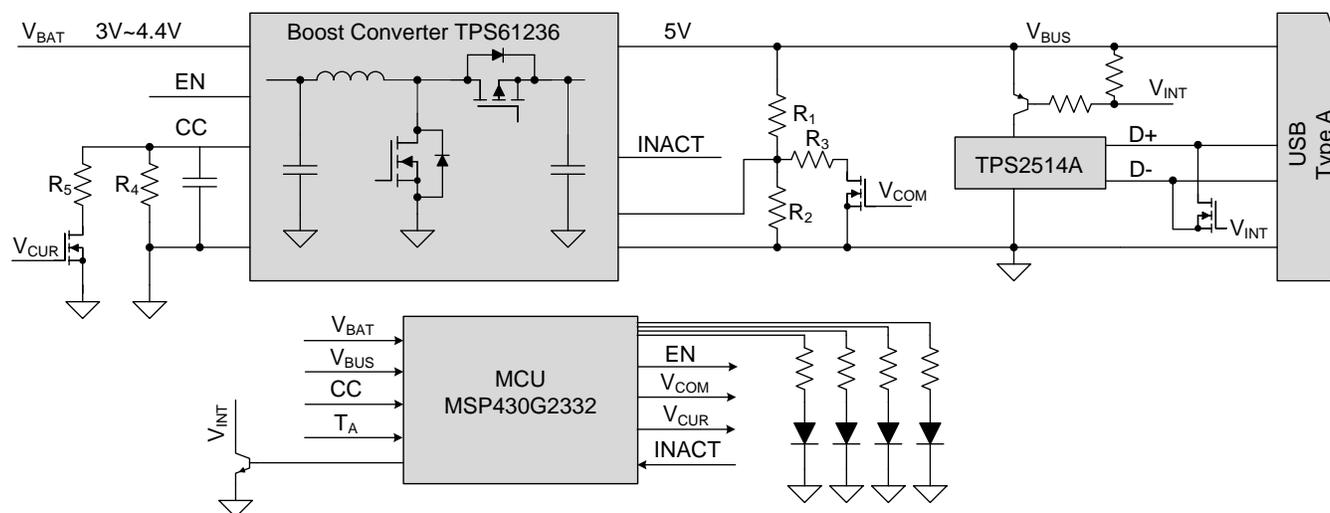

Figure 1: Block Diagram of the Reference-Design
The RD's block diagram is shown in Figure 1. In the system, the boost converter TPS61236 converts the battery voltage to regulated 5V for the V_{BUS} ; The USB dedicated charging port controller TPS2514A provides the electrical signatures on the data lines D+ and D- based on the charging scheme; And the MCU MSP430G2332 controls the operation mode of the RD.
- Standby mode 2:** When the open circuit voltage of the battery is higher than 3.5 V, the boost converter TPS61236 is enabled and output typical 5 V for V_{BUS} . The RD will stay at this mode if the load of V_{BUS} is lower than typical 50mA. The LEDs and TPS2514A are disabled and the MCU enter very low power sleep mode. The V_{INT} in Figure 1 is equal to V_{BUS} , so the USB data lines D+ and D- is short by the NMOSFET. the current consumption in this mode is approximate 22µA
- **Active mode 1:** the RD enters this mode when the battery voltage is higher than 3.5 V and load current of V_{BUS} is lower than 1.6 A. The V_{COM} in Figure 1 is in low voltage, and the V_{BUS} voltage is determined by R_1 , R_2 ; the V_{CUR} is in high voltage to turn on the MOSFET, so the output current limit is determined by R_4 , R_5 .